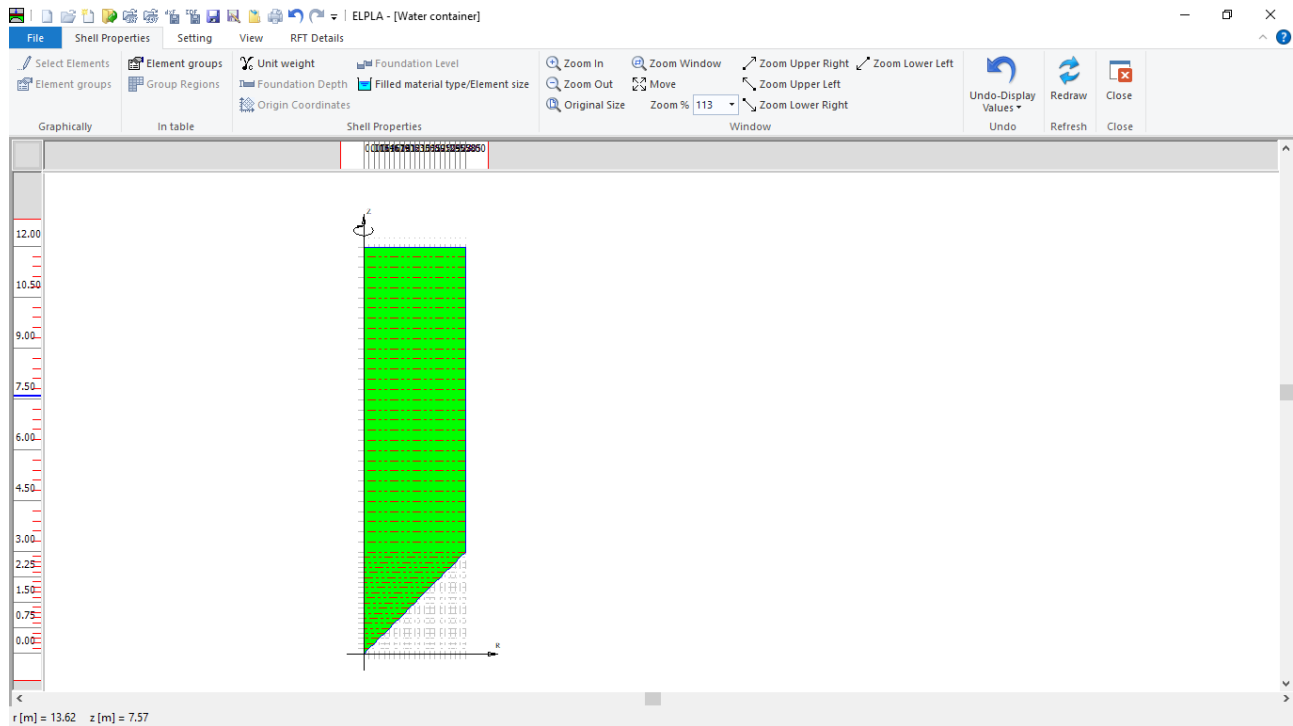
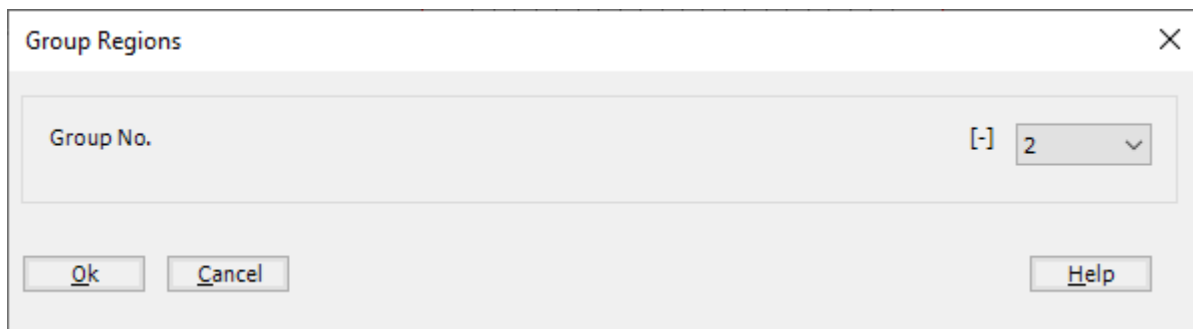
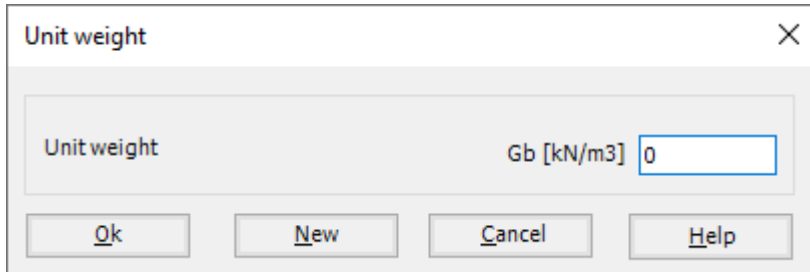

Figure 10.10 "Shell Properties" Window
Figure 10.13 "Group Regions" dialog box
Figure 10.14 "Unit weight" dialog box
To define the tank properties, choose "Shell Properties" command from "Data" Tab. The following window in Figure 10.10 appears with default shell properties. The data of shell properties for the current example, which are required to be defined, are element groups, group regions, unit weight of the tank, and the filled material properties.
- Choose "Select Elements" command from "Graphically" menu in the window of Figure 10.10
- Choose "Elements Groups" command from "Graphically" menu in the window of Figure 10.10, "Group Regions" dialog box Figure 10.13 appears
To enter the unit weight of the container, choose "Unit weight" command from "Shell Properties" menu in Figure 10.10. The following dialog box in Figure 10.14 with a default unit weight of 25 [kN/m³] appears, type 0 in the "Unit weight" edit box to neglect the self-weight of the tank, then click "OK" button.
To define the filled material properties of the container, choose "Filled material type/Element size" command from "Shell Properties" menu in Figure 10.10. The following form in Figure 10.15 appears.